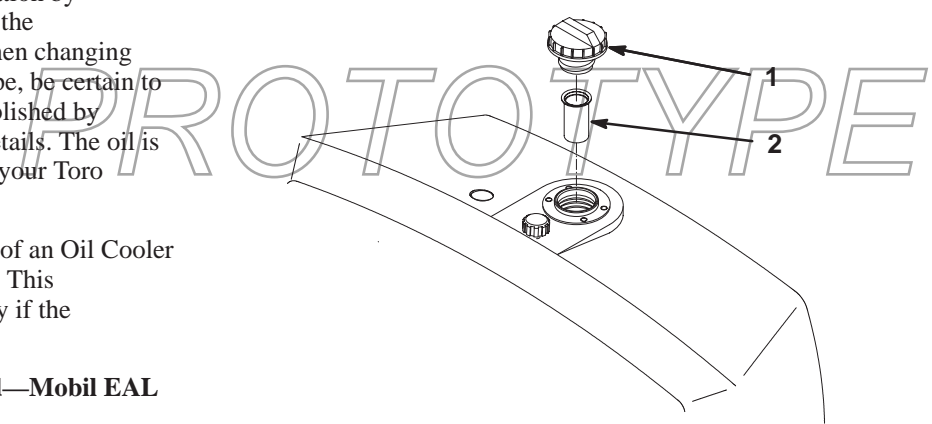

Figure 27
2. Remove the cap from the reservoir and check the level of fluid. The fluid should be up to the bottom of the screen in the filler neck (Fig. 27).